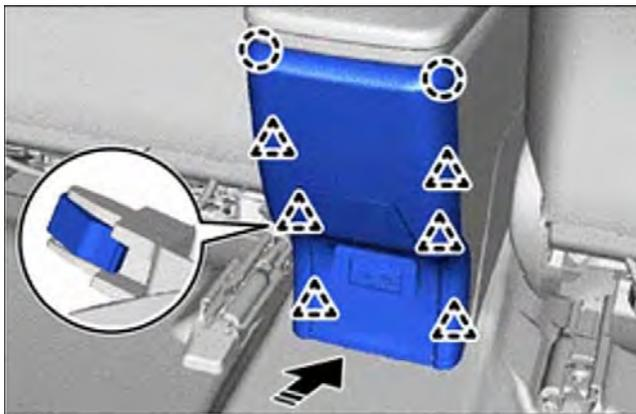

Figure 56
- (b) Engage the 6 clips and remove the console box hole cover, as shown in Figure 56.